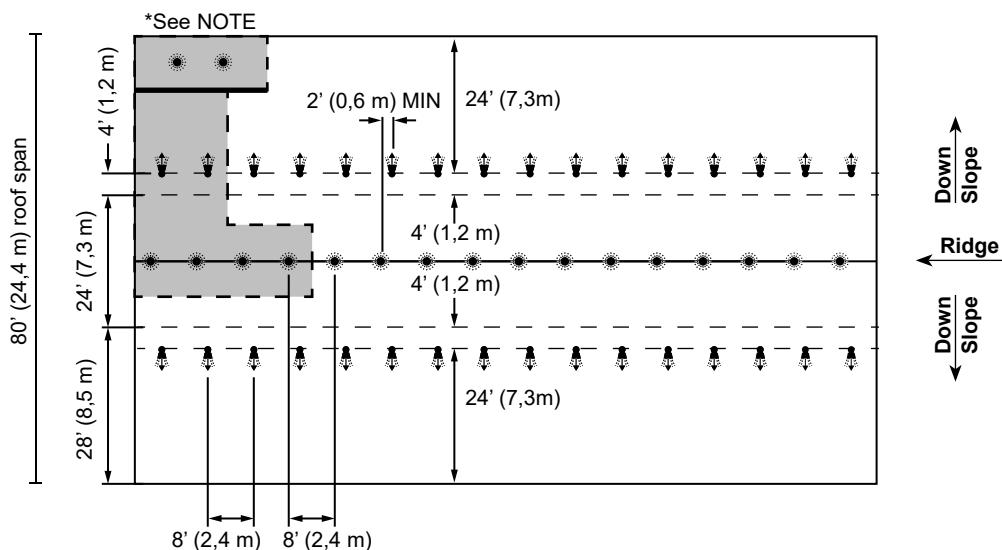

Figure 14B: Dry System Design for 80 ft (24,4 m) Roof Span with Obstruction
2. Figure 14B - Calculate the 6 most demanding sprinklers: